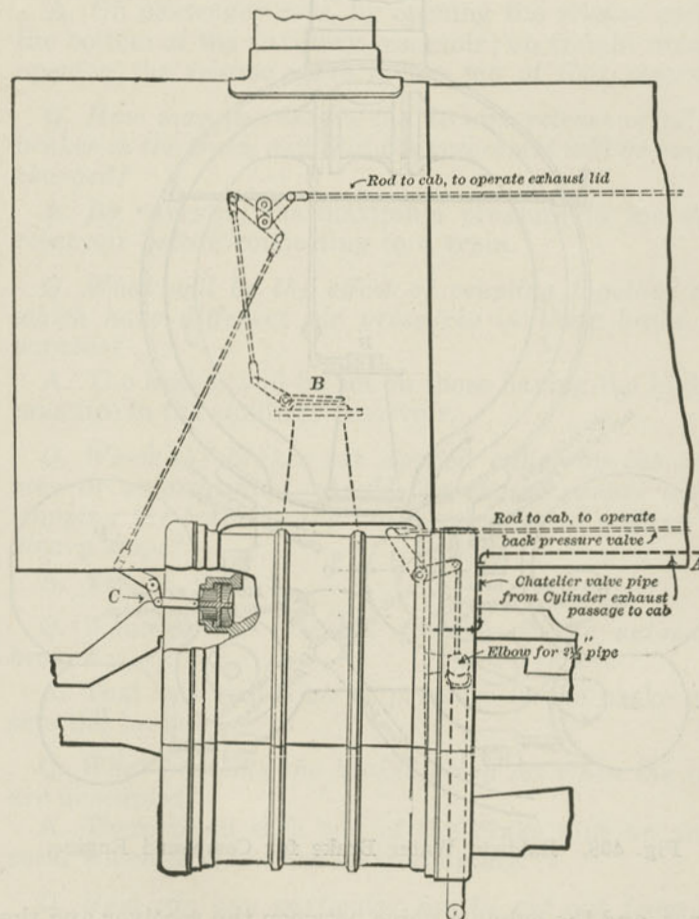

Fig. 467. Baldwin Water Brake for Compound Engine.
*A. Referring to Figs. 467 and 468, water entering the pipe A goes to a and the exhaust passages. The valve D regulates the back pressure against which the piston will operate; E is a safety valve in the live steam ways; C, air-inlet valves preventing smoke and cinders being drawn into the working cylinders; B, a lid to close the exhaust nozzle.*